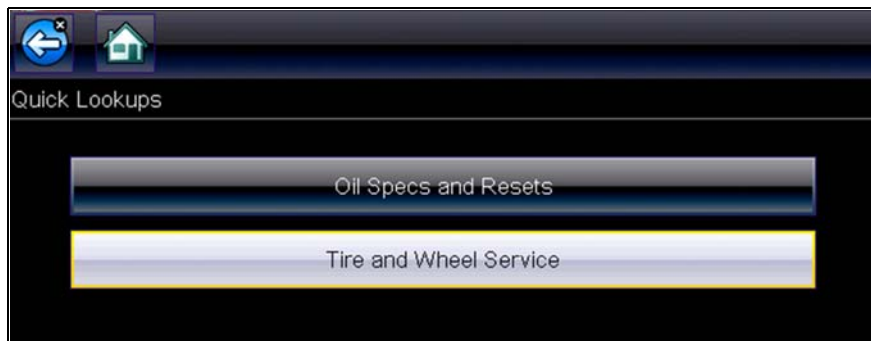

Figure 9-10
- **From the Home screen** - select the **Quick Lookups** icon, then select **Tire and Wheel Service** (Figure 9-10), and then proceed to Step 1 below.